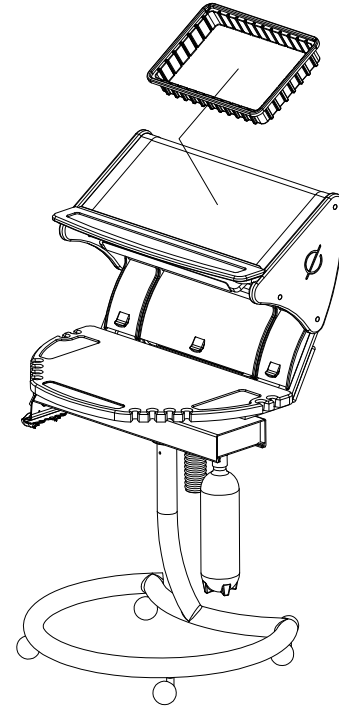

Fig 6.1
1. The Ultra Bin is placed on the top level angled work surface. (Fig 6.1).